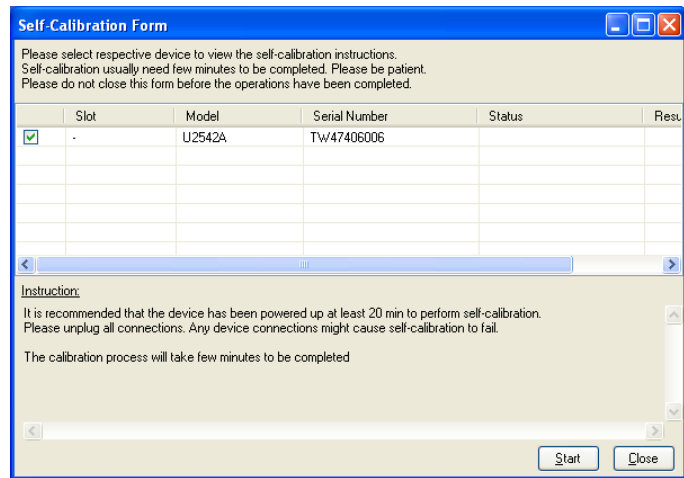

Figure 2-10 Self Calibration Form dialog box in Agilent Measurement Manager with a device being selected
- 5 Select the instrument that you would like to perform self-calibration and the **Start** button will be enabled. Click **Start** to proceed. See Figure 2-10.